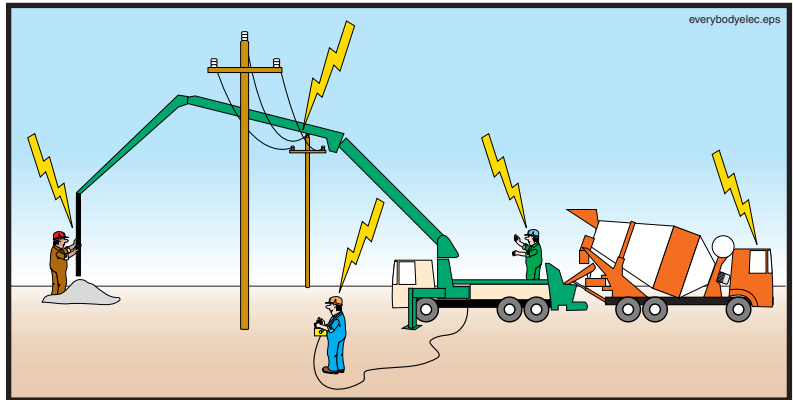

Figure 41
8.10 **⚠ DANGER** Direct contact with a live power line is always dangerous to everyone and anyone electrically connected to the machine (Figure 41). Use **extreme caution** near high voltage wires.